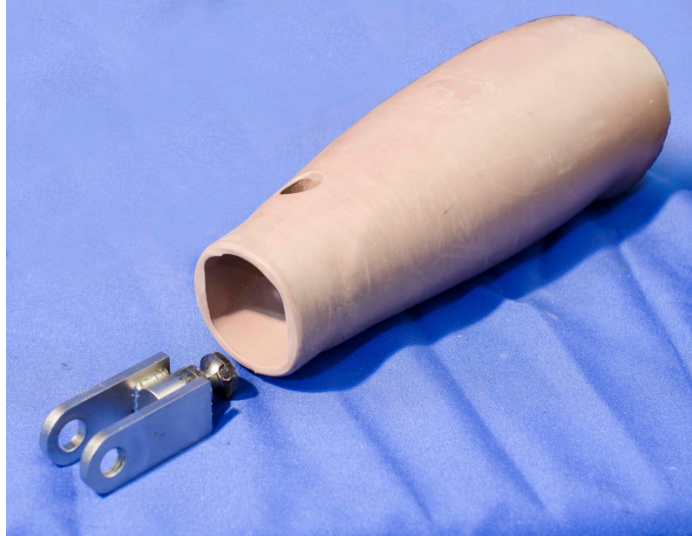
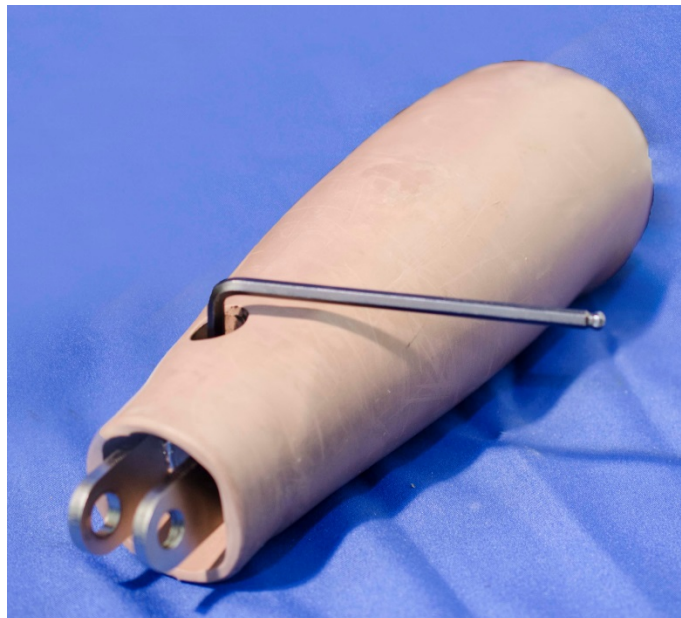

Figure 13-3. Install lower wrist rotation assembly into molded lower arm
Figure 13-4. Secure lower wrist rotation assembly to lower arm
13.2.2.1 Install Lower Wrist Rotation Assembly (472-6700) into Molded Lower Arm (472-6520) using M10 x 25 SHSS (Figure 13-3 and Figure 13-4).